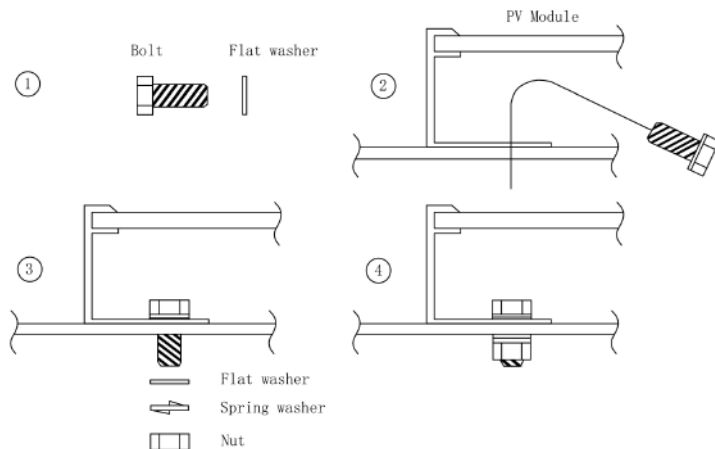

Figure 15: Securing the SPVxxx-R60DWMG / SPVxxx-R60DBMG modules by bolts to a rail
- Secure each module to the rails by adding a flat washer under the bolt head and a flat and spring washer under the nut (See *Figure 15*).